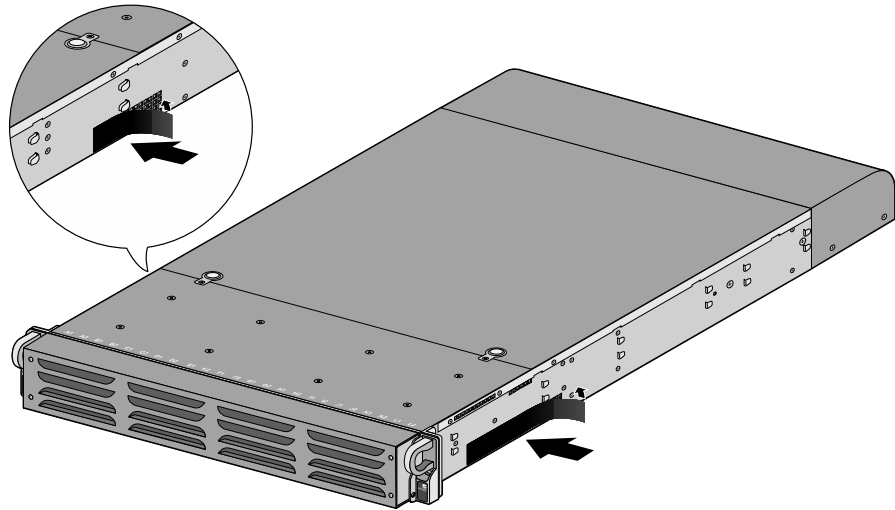
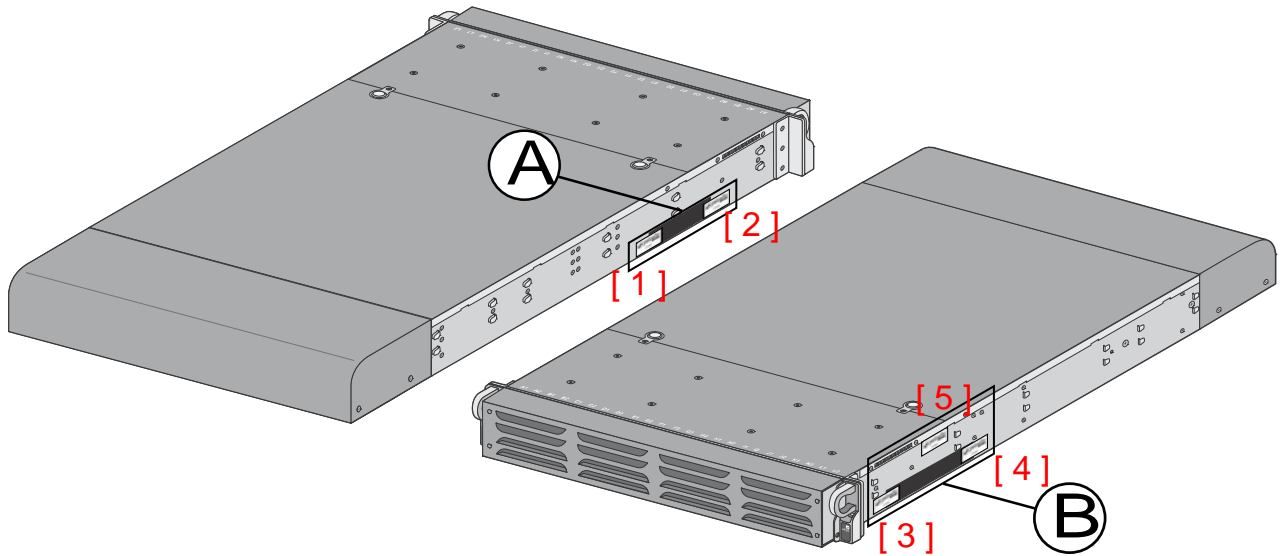

Figure 45 – M-500: Apply Vent Overlays
Figure 46 – M-500: Apply Tamper Seals on Vent Overlays and Side Opening
Cover the vent openings as shown in Figure 45 by applying one (1) overlay sticker over the left side vent and one (1) overlay sticker over the right side vent. Each overlay requires two (2) tamper seals as shown in Figure 46 (A). Also apply one (1) additional tamper seal as shown in Figure 46 (B) #5.